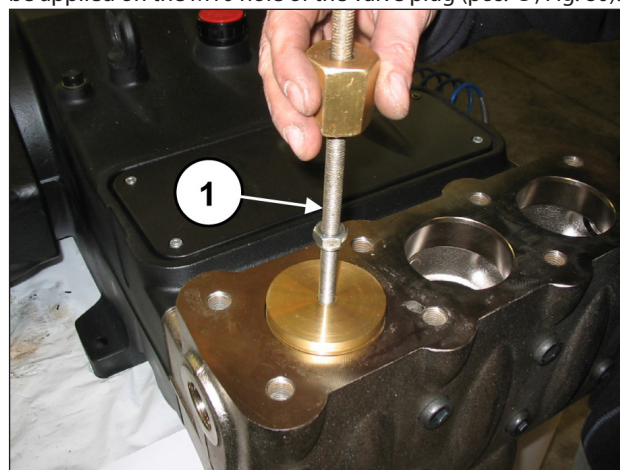

Fig. 80
Extract the valve plug with the use of an extractor hammer to be applied on the M10 hole of the valve plug (pos. ①, Fig. 80).